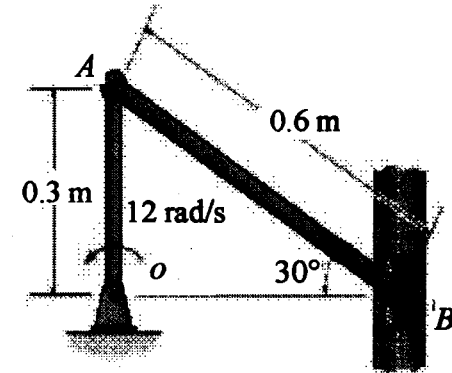

Fig 9
a) If crank OA rotates with an angular velocity of  $\omega = 12 \text{ rad/s}$ , determine the velocity of piston B and the angular velocity of rod AB at the instant shown in the Fig 9